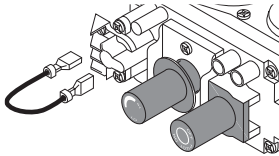

Figure 27 - Disconnecting Wires From Control Valve
1. Disconnect wires from the control valve (see Figure 27).
1. Remove jumper wire from control valve (see Figure 27).
1. Remove jumper wire from control valve (see Figure 27, page 19).